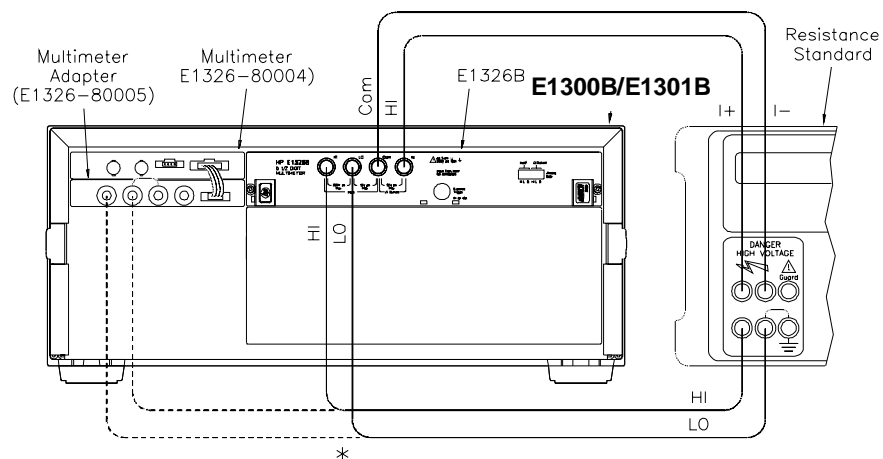

Figure 5-3. Resistance Adjustments Setup
1. Connect the equipment as shown in Figure 5-3. You can connect to the E1326B OR the E1326-80005 terminals, but not to both.